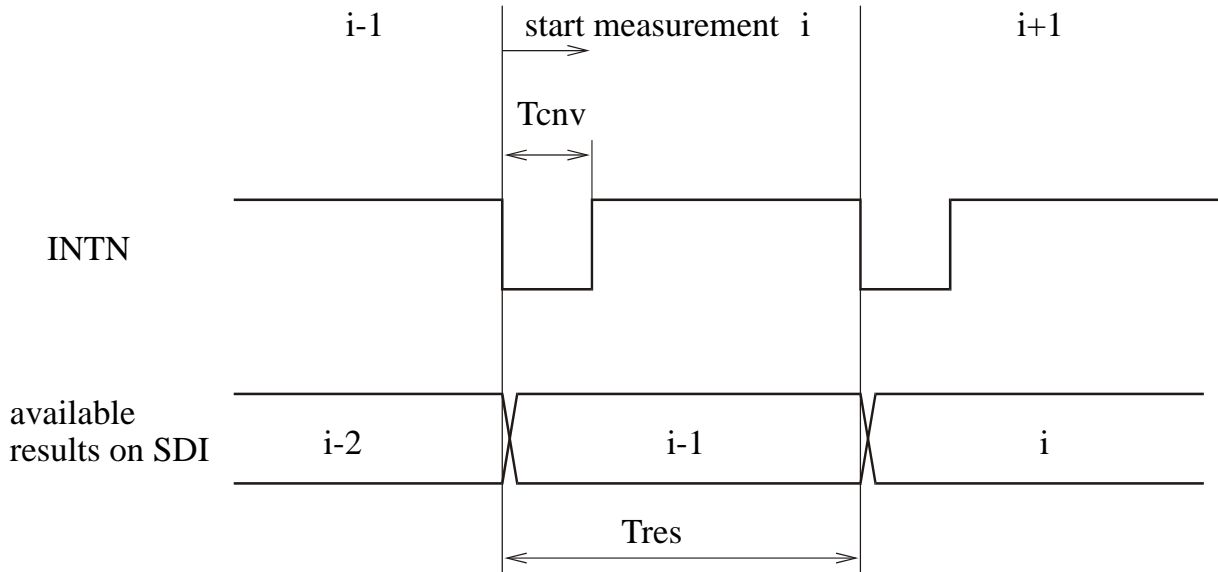

Figure 5: INTN pin in modes 1 and 2
- ²⁾ In measurement modes (MMS and MMD) the INTN pin is used to synchronize the SDI bus operations (see figure 5). The trailing edge of INTN signals the start of a new measurement.